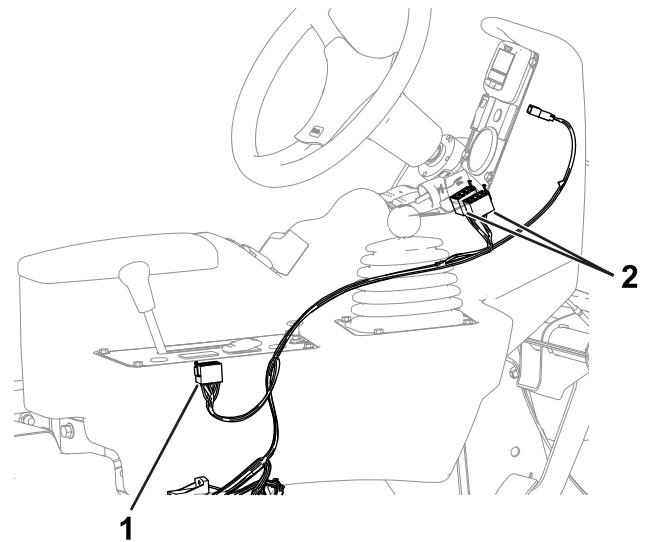

Figure 5
1. Route the 8-socket connectors through the console (Figure 5).